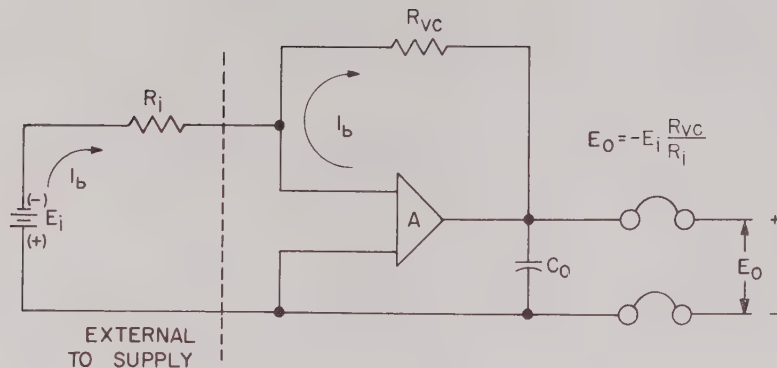

FIG. 3-4 VOLTAGE PROGRAMMING, OPERATIONAL NOTATION
which represents the closed loop gain of the system, is held constant, the output voltage E_o will vary linearly with E_i . Referring back to equation (4) we see that the expression is similar to the inverted amplifier equation for an operational amplifier. The voltage programmed power supply does in fact become a unipolar power amplifier with potentially very high power gain but with limited frequency response. (Refer to Fig. 3-4). The limited frequency response is largely due to the effect of the output capacitor C_o acting as a low-pass filter and preventing the output voltage (E_o) from varying rapidly. The range in which E_o can be varied is limited only by the maximum output voltage of the power supply and by the leakage current of the comparison amplifier. This leakage current is in the order of $10\mu A$ flowing opposite to I_b , the programming current. It is therefore desirable to select I_b sufficiently high, in order to keep the leakage current insignificant with respect to I_b . For critical applications, the leakage current can be compensated out. The "Kepco Power Supply Handbook" provides information towards this end.